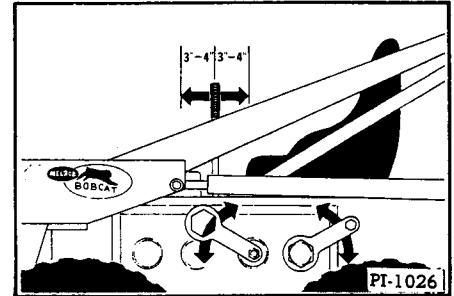

Fig. 14 Routine Clutch Adjustment
4. With the directional control lever in neutral position, tighten the front castle nut 1/2 slot. Move the lever back to check the adjustment. Repeat this until no more adjustment is needed. When the handle (hand grip) of the lever can be moved 3 to 4 inches (maximum) back from neutral to fully engaged position, adjustment of the reverse travel clutch is correct for that side. You may need to use the small end of the clutch wrench to make the adjustment (Figure 14).